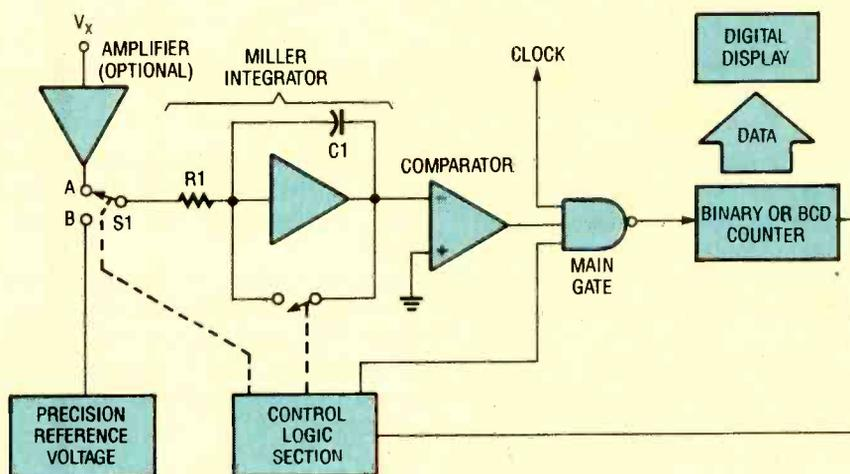

Fig. 2. A dual-slope integrator based meter can integrate-out noise to give more accurate readings than a single-slope device.
The liquid barretter design evolved, literally by accident, from a "hot-wire barretter" Fessenden had developed while still in Pittsburgh and had used in his 1900 Rock Point wireless-telephony experiment. The hot-wire device consisted of a short length of very thin, silver-coated platinum wire bent in a "U" shaped loop and enclosed in an evacuated glass envelope (see Fig. 2). The
Fig. 2. Fessenden's hot-wire barretter provided continuous detection but was not very sensitive. The device was made up of lead-in wires (L), a wire loop (W), an evacuated inner envelope (A) and a silvered outer bulb (B).
The dual-slope integrator of Fig. 2 solves the noise problem. The principal difference between the two converters is that the dual-slope converter makes the conversion in two steps. During the first step, the integrator is charged from the unknown input signal V_x . The output voltage of the integrator continues to rise as long as the input switch S1 is connected to the input amplifier. The binary/BCD counter is allowed to overflow, and this overflow signal tells the control logic circuits to switch S1 to position B, the output of a precision reference-voltage source. The polarity of this voltage is such that it will cause the integrator to discharge at a fixed rate.
Receiver Theory. The receiver in Fig. 2 is just as simple as the transmitter and a lot more fun to play with. The solar cell picks up any light striking it and converts it to a DC voltage. Components C1 and R1 limit the lower input frequency as well as blocking DC from the solar cell. Components U1, R2, R3, R4, and C2 make up the amplifier stage. Speaker SPKR1 can be a headphone speaker or dynamic microphone.
Fig. 2. The receiver portion of the communicator is just as simple as the transmitter: A solar cell picks up light emitted by the transmitter and converts it into a varying DC voltage.